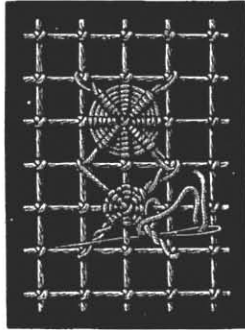

Fig. 33. Ribbed wheels.
**Ribbed wheels** (fig. 33). — Prepare a foundation the same as for the preceding wheels, then make a back-stitch over one bar of the net, slip the needle under the next bar and go on making back-stitches until the bars of the net are covered with them.